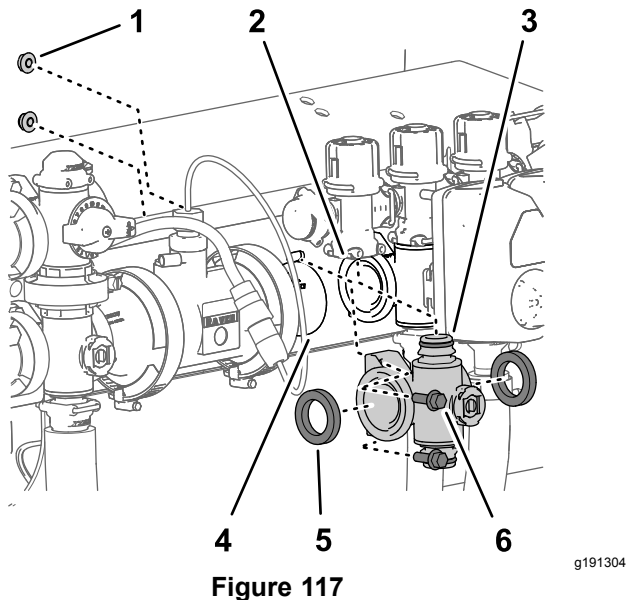
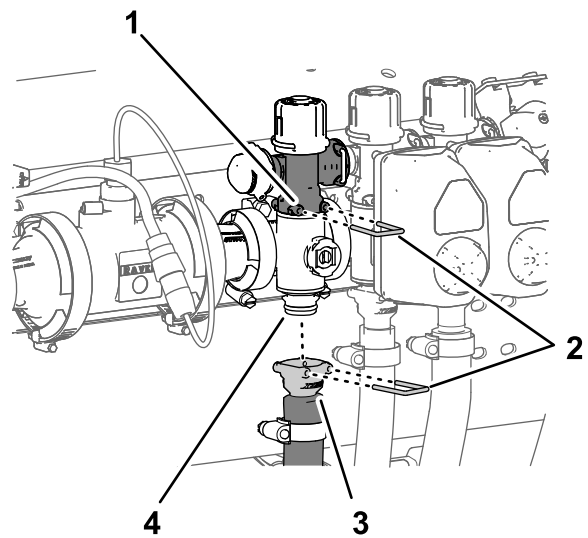

Figure 117
Figure 118
1. Align the 2 gaskets that you removed in Removing the Section-Manifold Valve \(page 79\) to the flanges of the section-valve manifold (Figure 117).
2. Align the flange of the section-valve manifold between the flanges of the other section-valve (s) and/or coupling adapter (Figure 117).
3. Assemble the quick-connect fitting of the section-valve manifold to the quick-disconnect socket of the section-bypass valve with a quick-connect pin (Figure 117 and Figure 118).
5. For left or right section-valve manifolds, assemble the section-valve manifold to the valve support (Figure 117) with the 2 flange-head bolts (1/4 x 3/4 inch) and 2 flange locknuts (1/4 inch) that you removed in Removing the Section-Manifold Valve \(page 79\).
8. Assemble the quick-connect coupler of the section hose onto the quick-connect fitting of the section-valve manifold with the quick-connect pin (Figure 118).